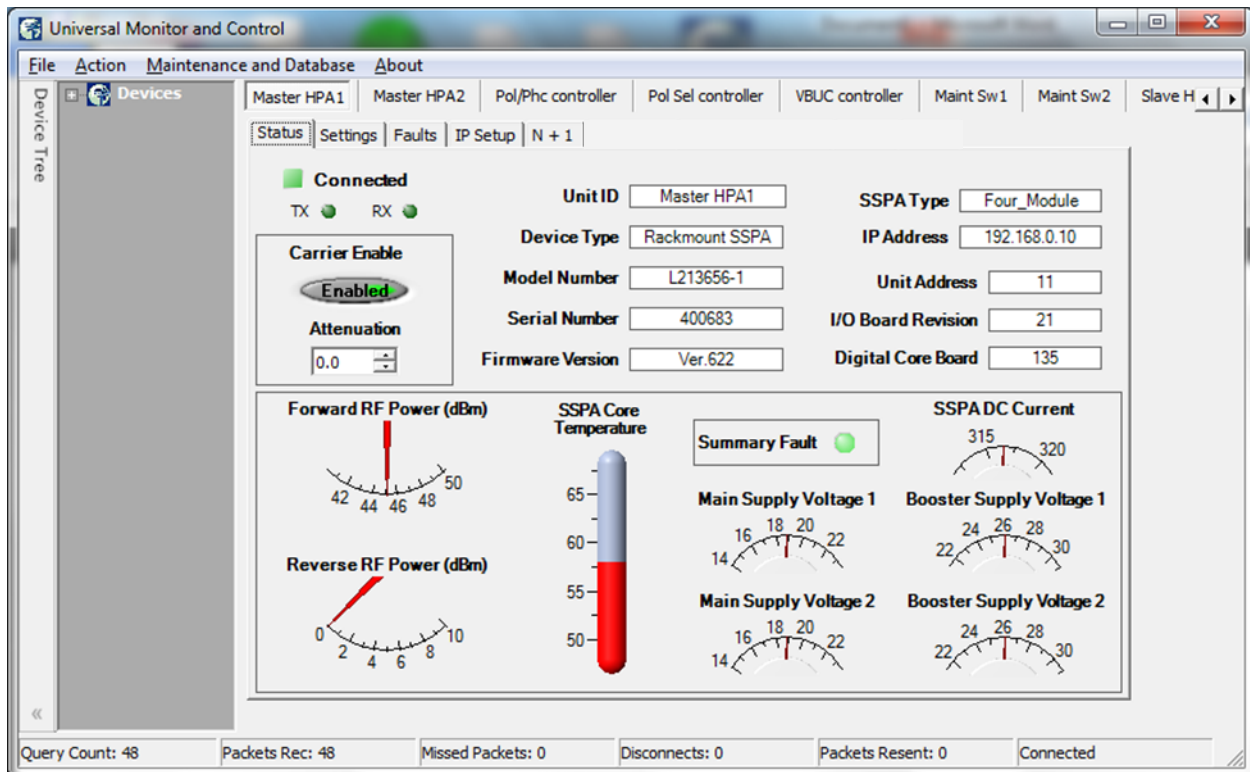

Figure 7-11: Status Window, Outdoor SSPA Controllers
The Status Window for the Outdoor SSPA Controllers (Controller 1, typically the Master controller) shows the operational status of the array of four (4) SSPA modules for that system. See **Figure 7-11**.